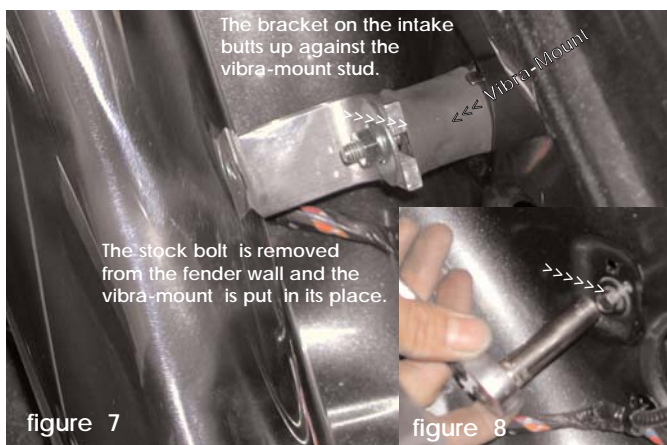

figure 7
- 4 Remove the stock m6 bolt on the fender wall and screw in the m6 vibra-mount in its place. Make sure that the vibra-mount is securly in place. (See figs. 7 and 8)
- 6 Use the m6 nut and washer to semi-tighten the bracket to the vibra-mount. (See fig. 7) Do not over tighten at this point.